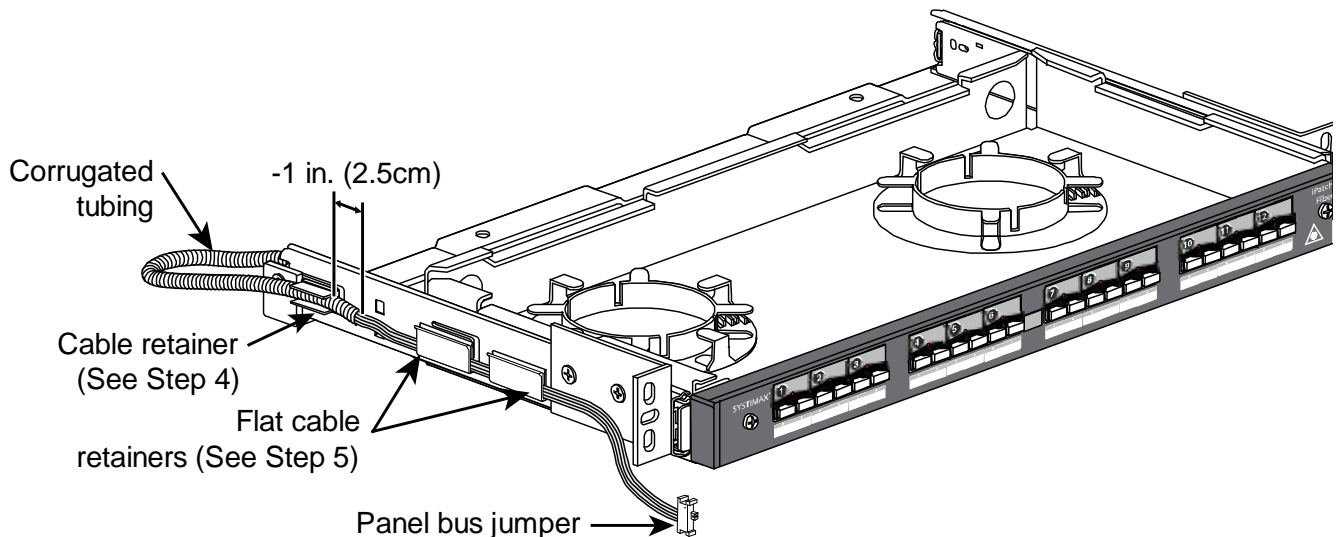

Figure 2 Routing the Panel Bus Jumper for a Sliding Shelf
4. Snap the corrugated tubing protecting the panel bus jumper into the cable retainer on the outside of the rail as shown in Figure 2.
5. Position the exposed ribbon cable of the panel bus jumper in the flat retainers on the outside of the sliding rail as shown in Figure 2.